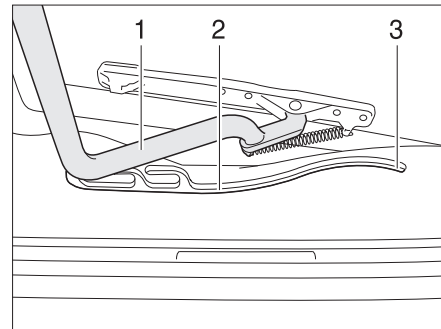

Fig. 45 Heki skylight, guide
■ Pull the bar (Bild 45,1) in the guides (Bild 45,2) to the rearmost position (Bild 45,3).
Closing: ■ Use both hands to push the bar (Bild 45,1) slightly upwards.
- Pull the bar in the guides (Bild 45,2) to the desired position.